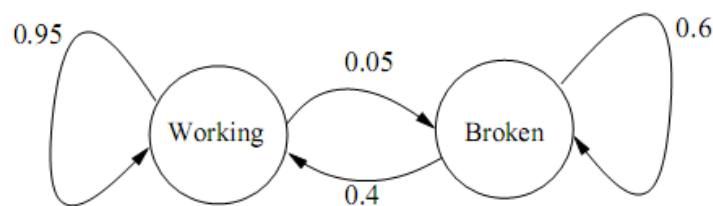

Figure 1: *Markov chain for simplest repair facility problem.*
- The Markov chain diagram is shown in Figure 1.